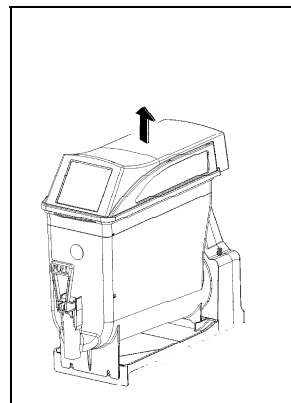

Fig. 17
- Quitar la tapa principal (fig.17).